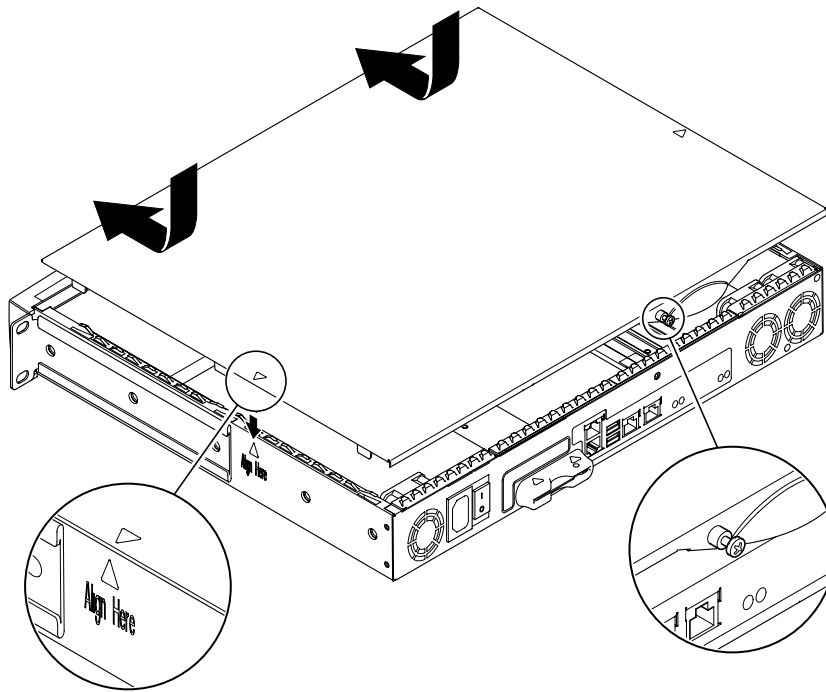

FIGURE 8-4 Replacing the Top Cover
6. Replace the system cover and tighten the captive screw (see FIGURE 8-4).